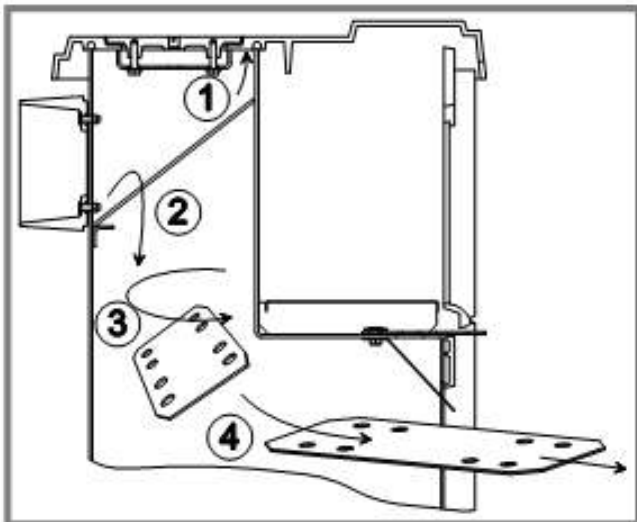

Figure 3 - Removing the flue baffle
- ✦ Remove the rear shield and the internal baffle (fig. 3).